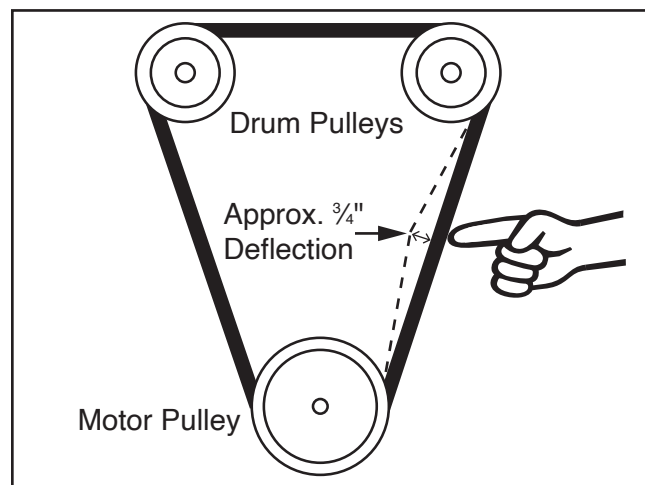

Figure 51. Proper V-belt deflection.
The sanding drums are driven by two V-belts on the Model G1066R and G1066Z, and one V-belt on the Model G1079R. The belts must have proper tension for optimum power transfer. However, too much tension may cause premature bearing failure. Proper tension is achieved when the belts deflect about $\frac{3}{4}$ " with moderate finger pressure at the midpoint between the drum pulley and the motor pulleys (see **Figure 51**).
5. Loosen (2) bearing set screws (see **Figures 51–52**) on each side of drum, then remove bearing assemblies from drum shaft.